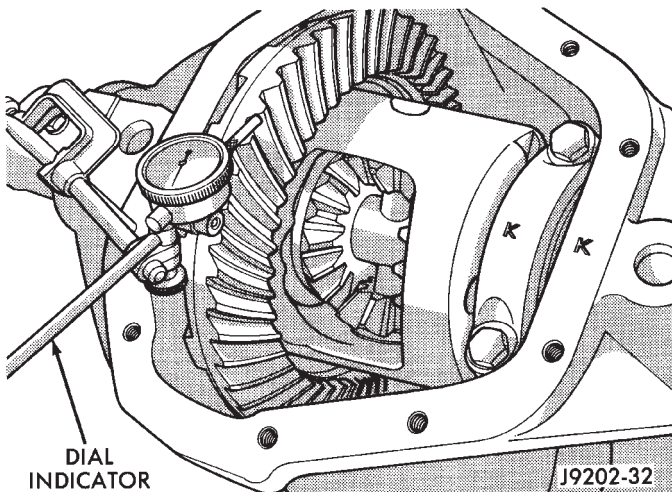
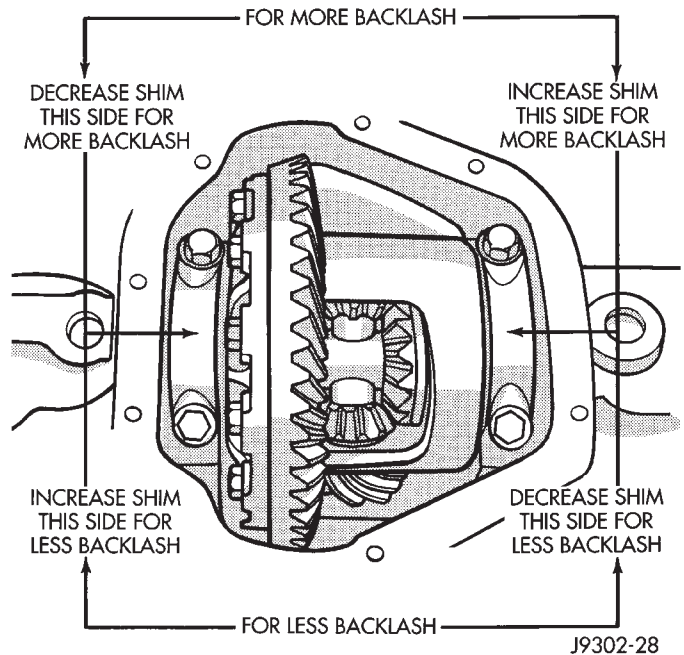

Fig. 54 Ring Gear Backlash Measurement
Fig. 55 Backlash Shim Adjustment
(28) Remove differential case and dummy bearings from axle housing.
(29) Install side bearing shims on differential case hubs.
(30) Install side bearings and cups on differential case.
(31) Install Adapters 8142 and Spreader W-129-B on axle housing and spread axle opening enough to receive differential case.
(32) Install differential case in axle housing.
(33) Remove spreader from axle housing.
(34) Rotate the differential case several times to seat the side bearings.
(35) Position the indicator plunger against a ring gear tooth (Fig. 54).
(36) Push and hold ring gear upward while not allowing the pinion gear to rotate.
(37) Zero dial indicator face to pointer.
(38) Push and hold ring gear downward while not allowing the pinion gear to rotate. Dial indicator reading should be between 0.12 mm (0.005 in.) and 0.20 mm (0.008 in.). If backlash is not within specifications transfer the necessary amount of shim thickness from one side of the axle housing to the other (Fig. 55).
(39) Verify differential case and ring gear runout by measuring ring to pinion gear backlash at several locations around the ring gear. Readings should not vary more than 0.05 mm (0.002 in.). If readings vary more than specified, the ring gear or the differential case is defective.